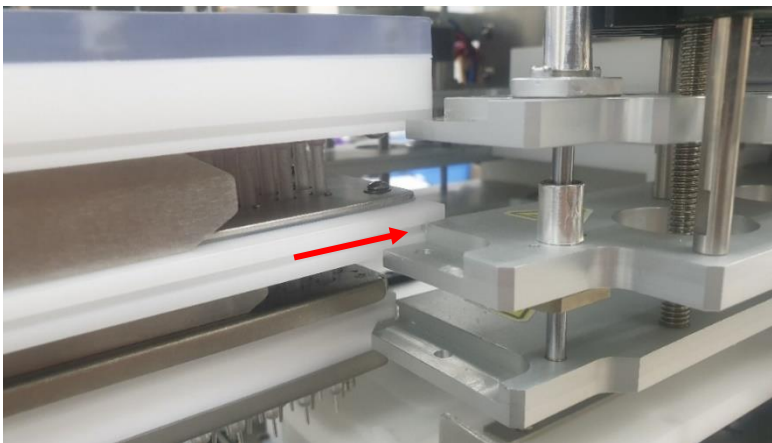

Figure 3-7: Align Fluidic Head to Machine (step 1)
8. Turn the fluidic head reservoir-side up, and align the center block of the fluidic head to the machine (Figure 3-7 red arrow).